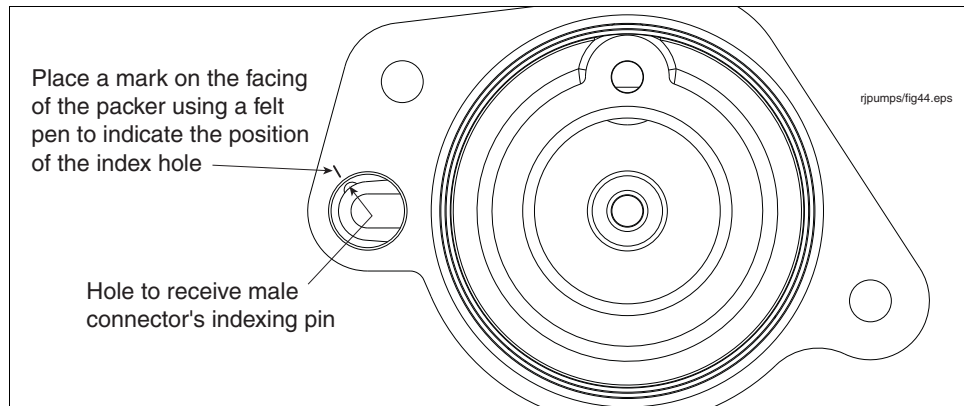

Figure 34. Male Connector Index Hole In Base Of Socket
6. Place a mark on the facing of the Packer using a felt pen to indicate the position of the index hole (see Figure 34).
11. The indexing pin on the back of the connector must seat in the index hole in the base of the male connector's socket (see Figure 34) for the connector to be correctly oriented relative to the female connector.